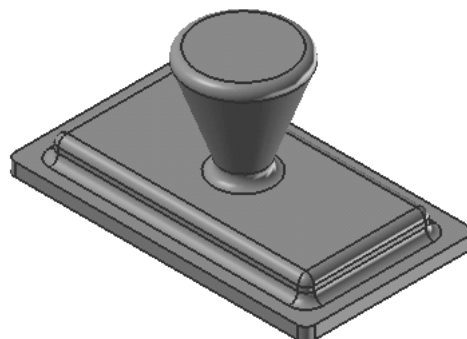

Figure 8-45 The final model
- Choose **File > Close > Save and Close** to save and close the part file. The final model for tutorial 1 is shown in Figure 8-45.